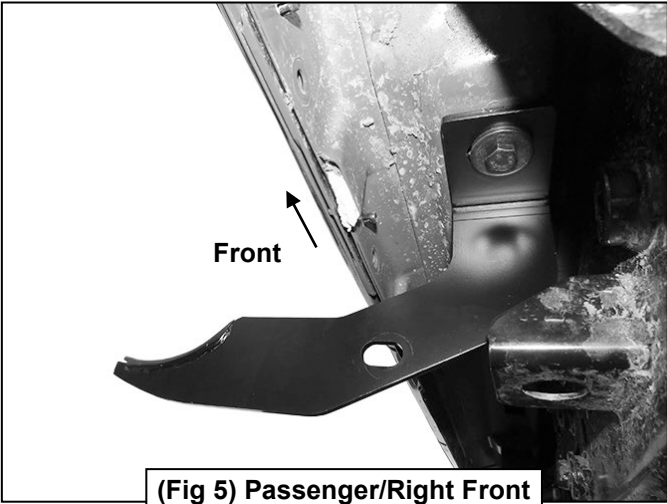

**Fig 3**
3. Select the Passenger/Right Front Mounting Bracket, **(Figure 3)**. **IMPORTANT:** Use the illustration above and **Figure 3** to properly identify the Mounting Bracket. Attach the Mounting Bracket to the threaded insert using (1) 8mm x 35mm Hex Bolt, (1) 8mm Lock Washer and (1) 8mm Flat Washer, **(Figures 4 & 5)**. Do not tighten hardware.
5. Move to the 2nd mounting location and locate the threaded insert and pair of holes in the pinch weld, **(Figure 9)**. Repeat **Steps 3 & 4** to install the Passenger/Right Center Mounting and Support Brackets, **(Figures 3, 10—12)**. **NOTE:** The Center and Rear Mounting Brackets look similar but each one is unique. The Center Support Bracket has a hole in the top and a notch on the bottom. The Rear Support Bracket has a notch at the top, **(Figure 11)**. Do not tighten hardware.
6. Move to the last mounting location on the rocker panel and locate the threaded insert and pair of holes in the pinch weld, **(Figure 13)**. Repeat **Steps 3 & 4** to install the Passenger/Right Rear Mounting and Support Brackets, **(Figures 3, 11 & 14)**. Do not tighten hardware.